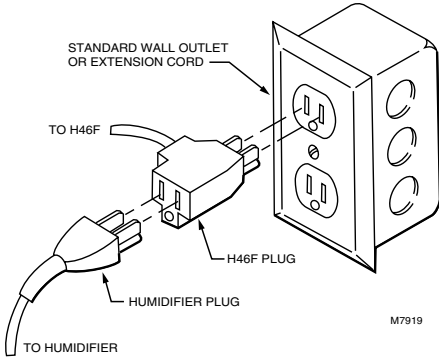

Fig. 3. Connecting H46F interrupter plug.
3. Insert the humidifier plug into the end of the interrupter plug. See Fig. 3.